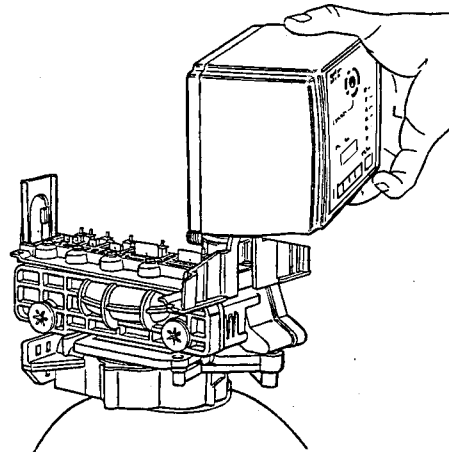

Figure 18
- Lift the control off the valve, Figure 18. To replace the control, reverse the above procedure. Note that the camshaft needs to be positioned correctly before it can be inserted into the back of the control. There is a locating rib on the camshaft. Position the rib on the top of the shaft and slide the camshaft into the control. Engage the camshaft back into the rear “hoop” of the top plate.